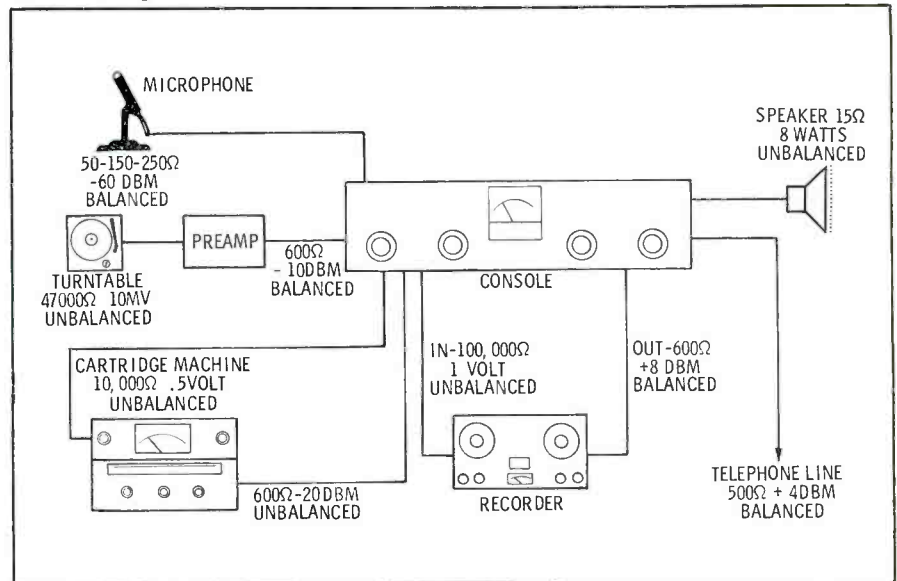

Fig. 4. Typical levels and impedances encountered during sound recording work.
4. Keep your impedances matched. Fig. 4 shows some of the many impedances and levels encountered in a typical installation.